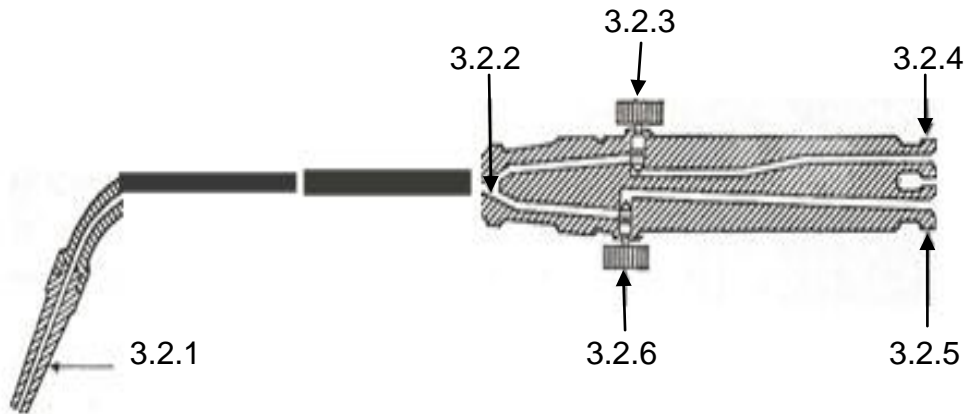

FIGURE 2
3.2 FIGURE 2 shows a sectional view of a welding torch or blowpipe.